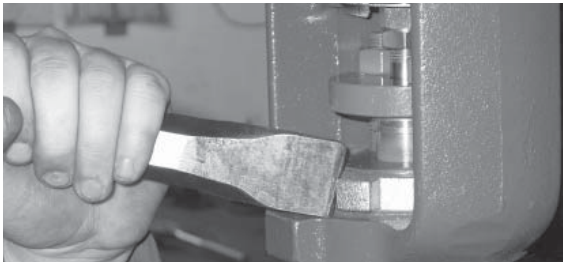

Figure 4 Yoke Nut Tightening
- 4 Thread the yoke nut onto the valve bonnet and tighten using a heavy blunted chisel and hammer until the yoke is secured tightly to the valve (Refer to Figure 4). **DO NOT OVER TIGHTEN.**
- 3 If removal of the actuator from the valve is necessary, the yoke nut (Key 32) will need to be completely loosened. Using a heavy blunted chisel and hammer, completely loosen the yoke nut (Key 32) (Refer to Figure 4). Note: the yoke nut will not be able to be removed until the actuator is lifted from the valve (Refer to Unpacking and Mounting sections for actuator hoisting instructions).